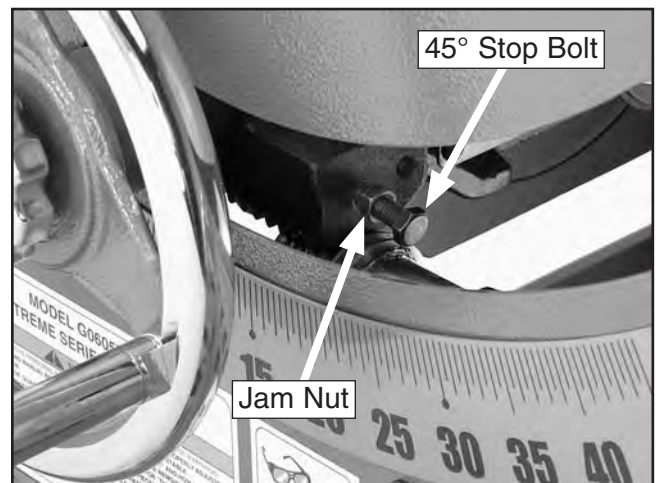

Figure 118. 45° stop bolt and jam nut.
5. Loosen the jam nut on the 45° stop bolt (see **Figure 118**) then adjust the stop bolt in or out according to how far off the blade was from 45°.